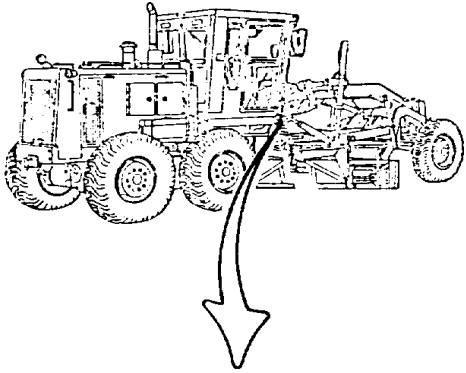

Figure 10-163.
- 27. Remove connector (43) and preformed packing (44, Figure 10-163). Discard preformed packing (44).
- 28. Disconnect hose assemblies (46 and 54) from tee (45).
- 29. Remove tee (45).